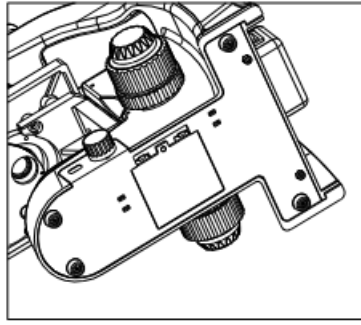

Fig. 6
**NOTE:** Not available with models having built-in WiFi/digital cameras. There are rechargeable batteries at the bottom of the microscope. Open the battery box to replace the battery see Fig.6 .